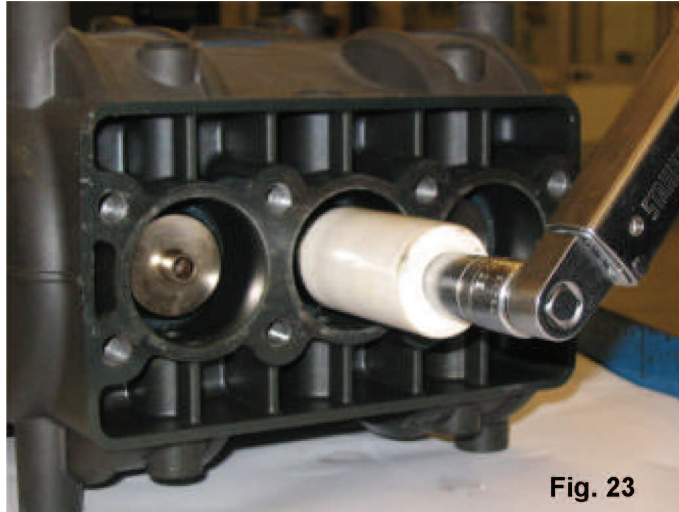

Fig. 23
Pay attention to the order of seal pack disassembly as indicated in fig. 23 composed of:
A) Unscrew the piston fixing screws as indicated in fig. 23.